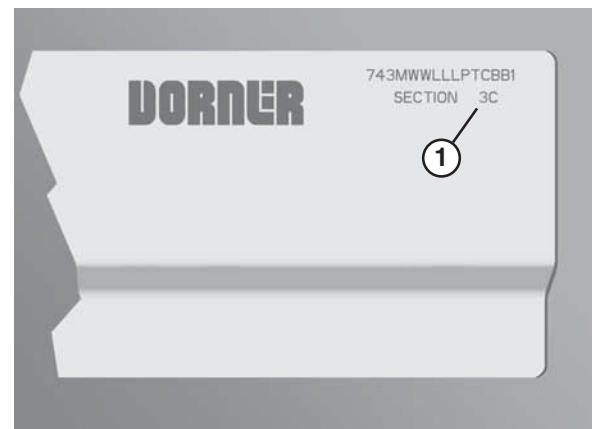

Figure 6
1. Locate the section number sequence etched on each section of frame (Figure 6, item 1).